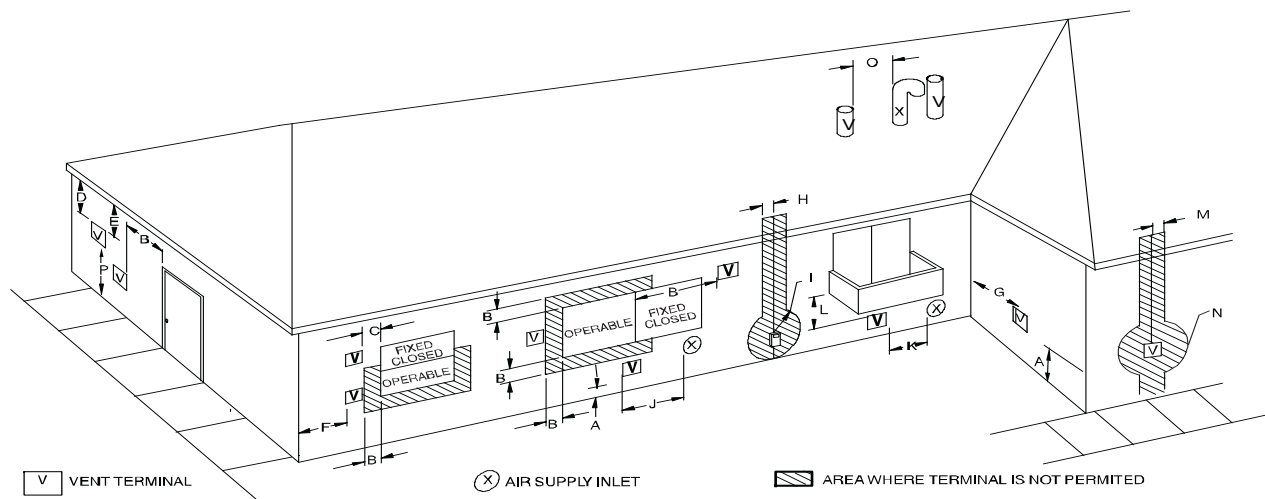
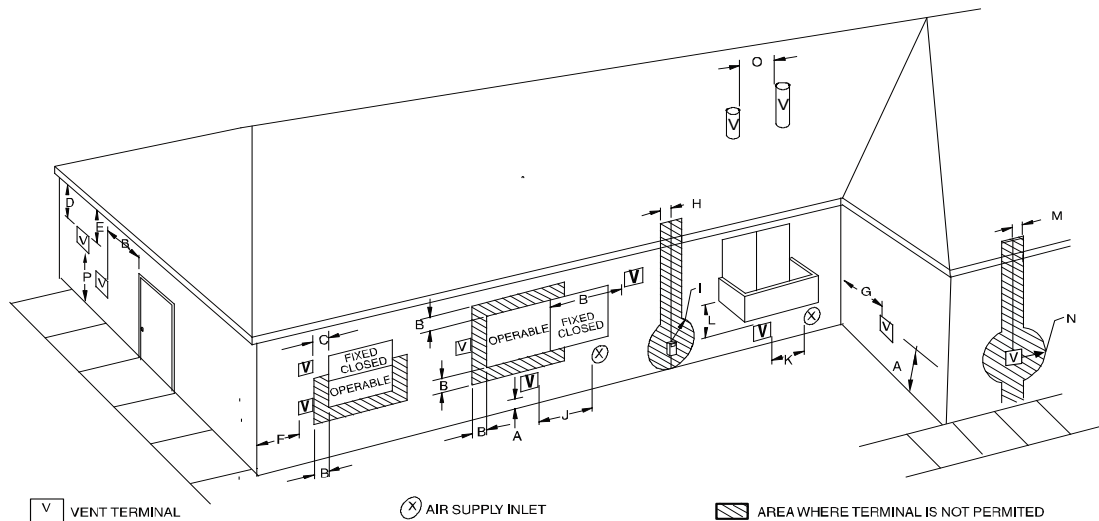
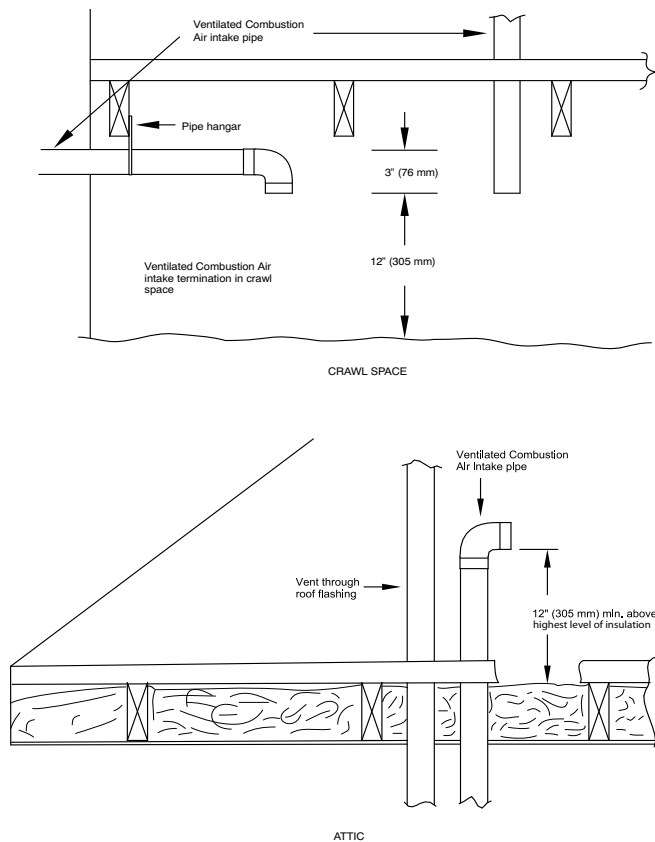

Fig. 42 – Direct Vent Termination Clearance
Fig. 43 – Ventilated Combustion Air and Non-Direct Vent Termination Clearance
Fig. 46 – Vent Terminations for Ventilated Combustion Air A10497
In a direct-vent (2-pipe) system, all air for combustion is taken directly from outdoor atmosphere, and all flue products are discharged to outdoor atmosphere. Combustion-air and vent pipes must terminate together in the same atmospheric pressure zone, either through the roof (preferred) or a sidewall. See Fig. 42 for references to clearances required by National code authorities.
In a ventilated combustion air option, the vent terminates and discharges the flue products directly to the outdoors similar to a direct vent system. See Fig. 43 for references to clearances required by National code authorities.
In a non direct-vent (1-pipe) system, all air for combustion is taken from the area adjacent to furnace, and all flue products are discharged to outdoor atmosphere. Air for combustion must be supplied as described in the Air For Combustion and Ventilation Section. Do not use an abandoned chimney to supply outside air to the furnace. See Fig. 43 for references to vent clearances required by National code authorities.
For vent termination clearance, references to National codes are shown in Fig. 42 for Direct Vent/2-Pipe system and Fig. 43 for Ventilated Combustion Air/Non-direct Vent/1-Pipe system. For exterior termination arrangements, refer to Fig. 39 for Direct Vent/2-Pipe system and Fig. 40 for Ventilated Combustion Air/Non-Direct/1-Pipe system. Contact Local code authorities for other requirements to and/or exemptions from the National codes shown in the figures.
1. Comply with all clearance requirements stated in Fig. 42 or Fig. 43 per application.
Direct vent (2-pipe) vent and combustion air pipes must terminate outside the structure. See Fig. 42 For references to vent clearances required by National code authorities. Allowable vent and combustion air terminations are shown in Fig. 39.
The vent pipe for a Non Direct Vent (1-pipe) system must terminate outdoors. See Fig. 43 for references to vent clearances required by National Code authorities. Allowable vent terminations are shown in Fig. 40.
The vent pipe for a Ventilated Combustion Air System must terminate outdoors. See Fig. 43 for references to vent clearances required by National code authorities. Allowable vent terminations are shown in Fig. 40. The combustion air pipe terminates in a well-ventilated attic or crawl space. Follow the clearances as shown in Fig. 46.